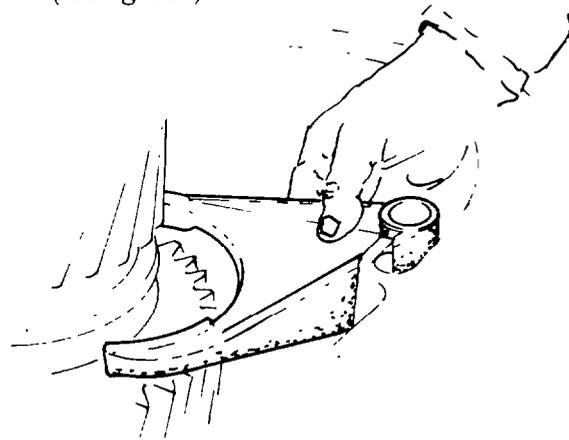

Fig. 235 — Removing Selector Fork
- aa. Position the transfer case vertically with the rear of the case facing up and remove the Hi-Lo range selector fork (see fig. 235).